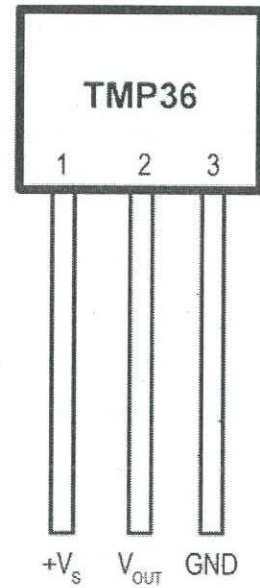

Figure Q4(a): TMP36
- Q4 a) You are asked to design a low-cost consumer device to measure the temperature and transmit the measurement to another low-cost consumer device. The main device is connected with a TMP36 temperature sensor (Figure Q4(a)) to measure the temperature. TMP36 output is an analog voltage output depends on the temperature. Red colour LED should be used with the other device to indicate temperatures larger than 50°C. Both devices contain the same microcontroller development board (Figure Q3(b)). The UART communication should be used to communicate between two devices and indicate whether the measured temperature is higher than 50°C or not (No need to communicate the temperature value).